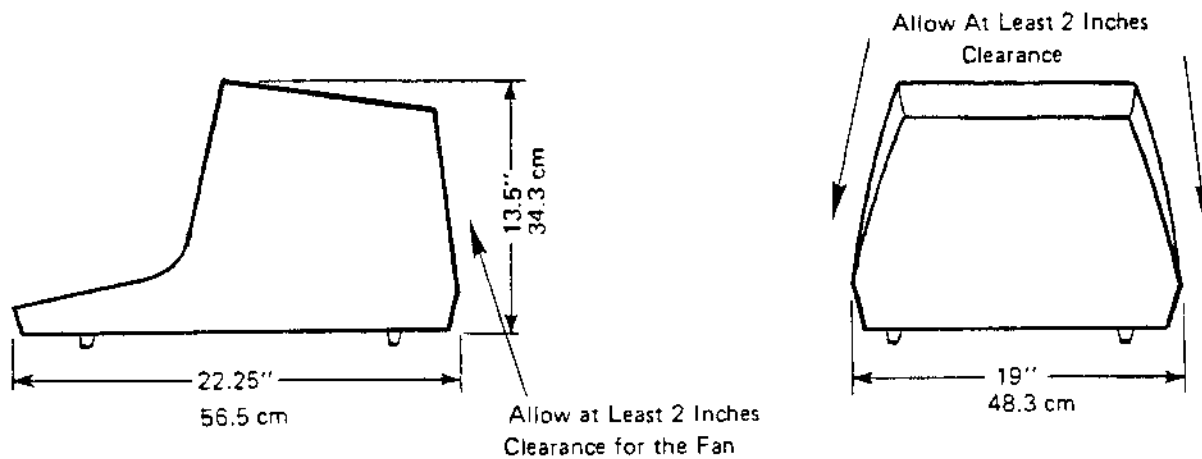

Figure 2-1 Mounting Requirements
**CAUTION:** Do not place the terminal on any surface that will block cooling air from the bottom or back of the cabinet. The terminal is provided with an internal fan for cooling. Air enters through slots in the bottom and out slots provided in the rear of the terminal case. To maintain efficient air circulation, keep at least two inches of clearance at the rear and on the sides of the terminal (See Figure 2-1).